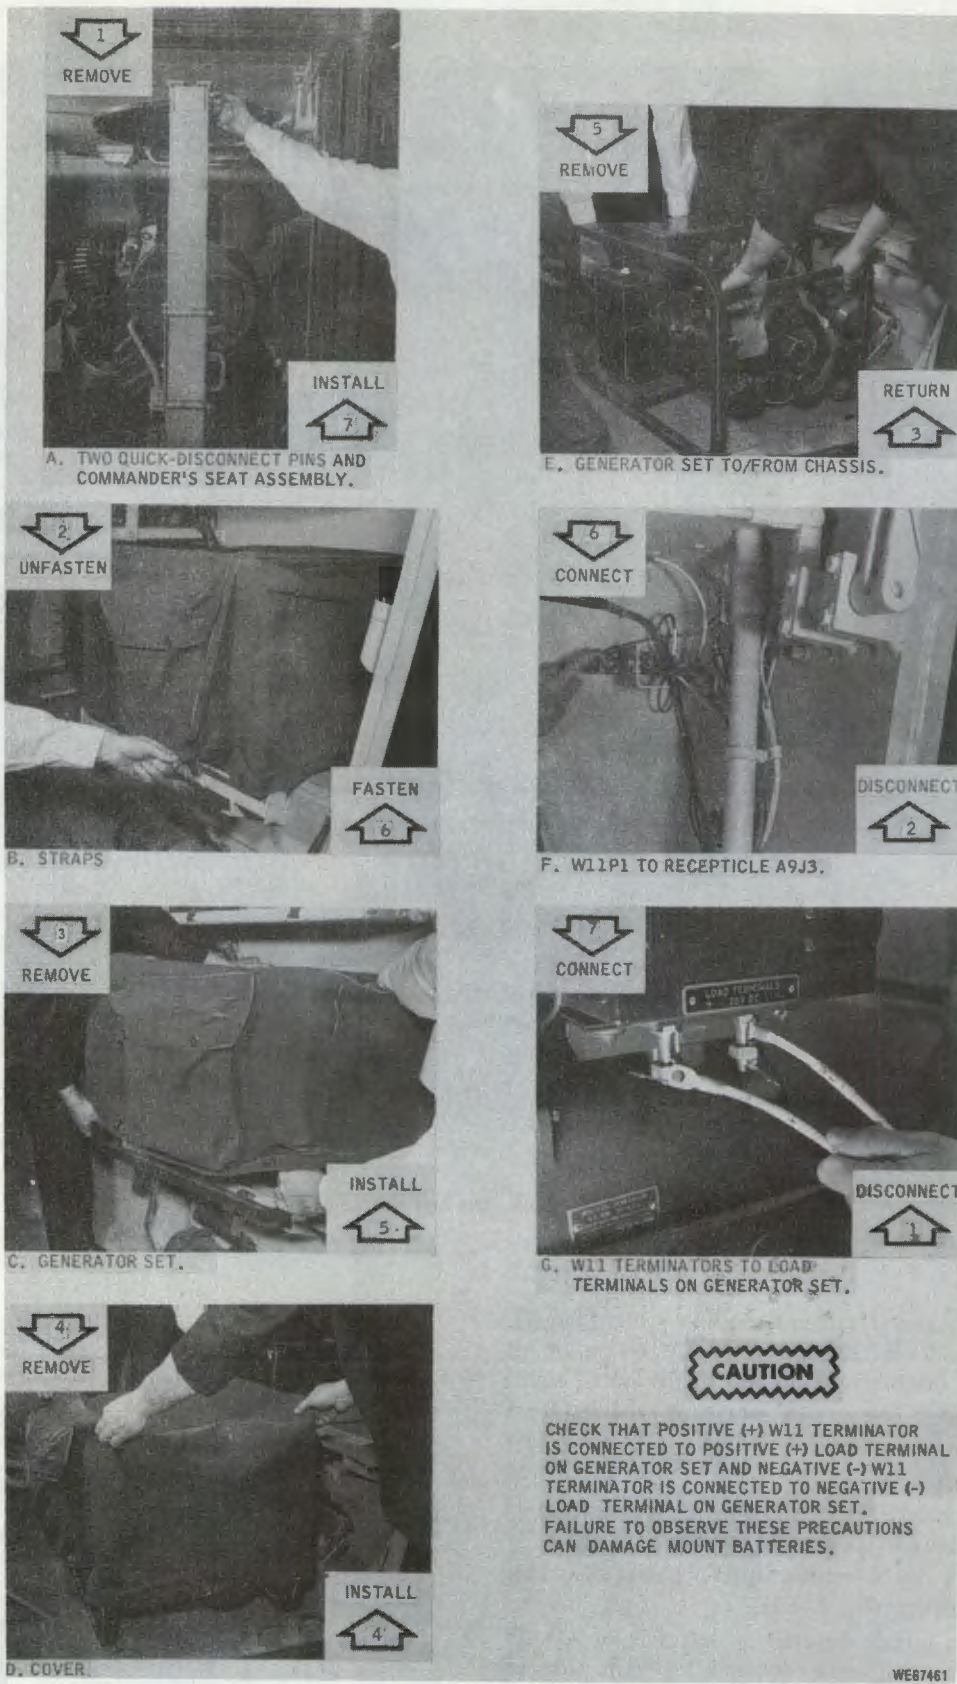

Figure 2-85. Setting up and stowing generator set (APU).
(3) *Setting up and stowing the generator set.* The generator set is stowed in the right rear of the personnel compartment. Refer to figure 2-85 to set up or stow the generator set.
(4) *Charging the batteries.* Refer to para 3-13 g (2) (c).